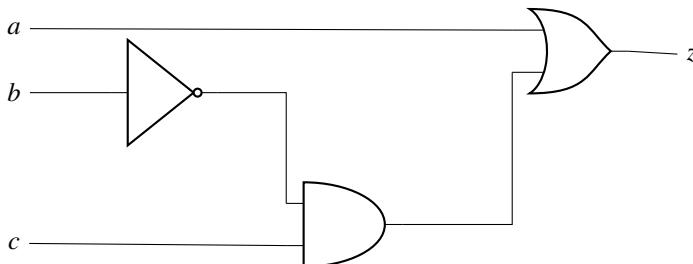

Fig. 4.31
56. Consider the Boolean function  $Z(a, b, c)$ . Which one of the following minterm lists represents the circuit given below in Fig. 4.31?